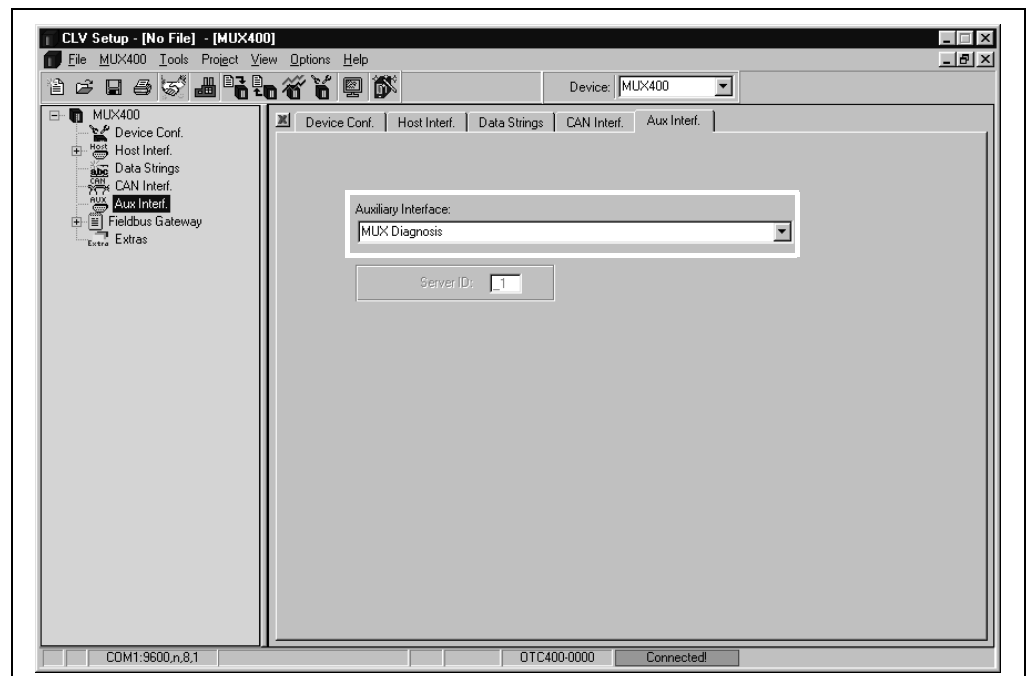

Fig. 6-5: CLV Setup: "Auxiliary interface" tab: Selecting the MUX Diagnosis
1. Choose the AUXILIARY INTERFACE tab (see Fig. 6-5, Page 44).
1. Choose AUXILIARY INTERFACE tab (see Fig. 6-5, Page 44).